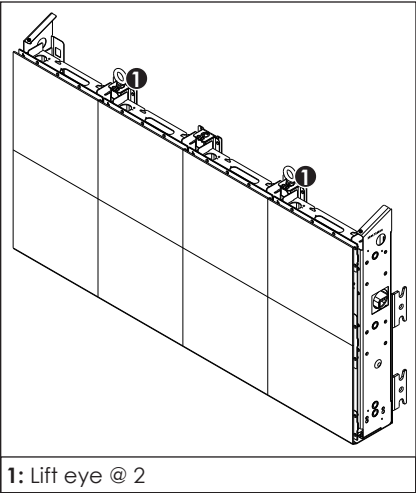

Figure 1: Install Lift Eyes
- 2. Remove the beverage shroud and install the M12 lift eyes supplied with the display hardware into the designated locations on the cabinet. Refer to **Figure 1** and the **RTX-2101/2801 Series Section Basics Quick Guide (DD3886326)**.